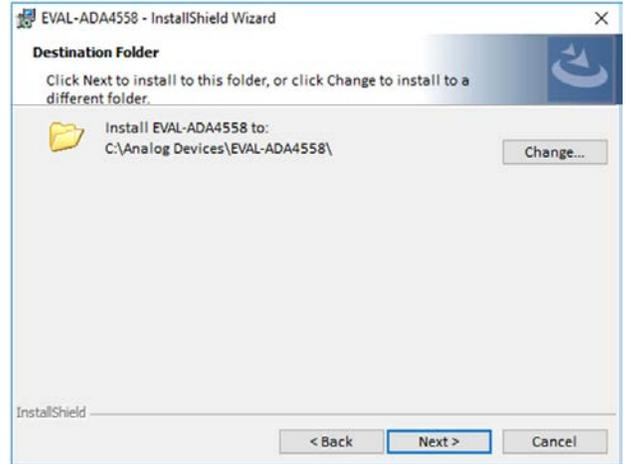

Figure 3. EVAL-ADA4558EBZ Software Installation: Select Location for Software Installation
4. Select the location to install the software and then click **Next** (see Figure 3). It is recommended to use the default folder location.